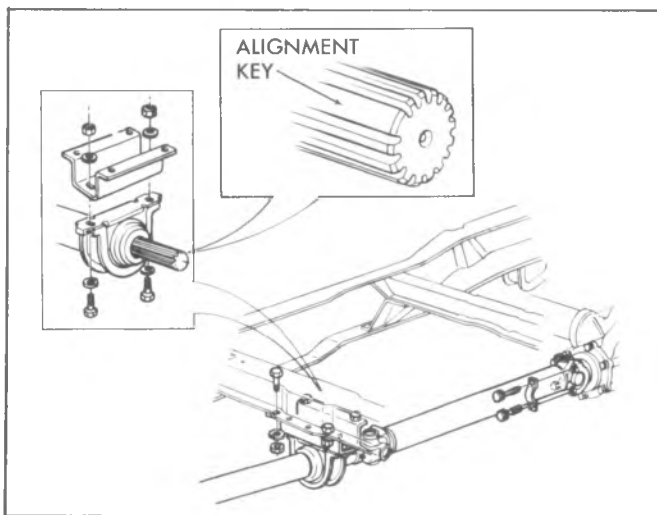

Fig. 4A-19--Alignment Key
4. Once the bearing cup protrudes $3/8''$, release vice. Grasp protruding portion of cup in vice and strike center yoke as shown in Figure 4A-22 until cup is removed. Remove cup seal by prying off with a thin screwdriver.